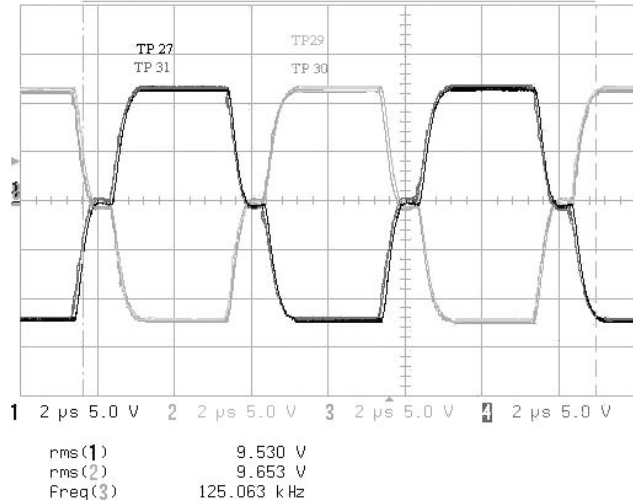

Figure 4.15 Full-Bridge DC to DC Converter Gate Switching
- Using an oscilloscope check gate switching of the Full Bridge DC to DC Converter, as shown in Figure 4.15. Verify the phase shift at startup. Probe at TP-27, TP-29, TP-30 and TP-31. All measurements are with respect to SMPS reference.